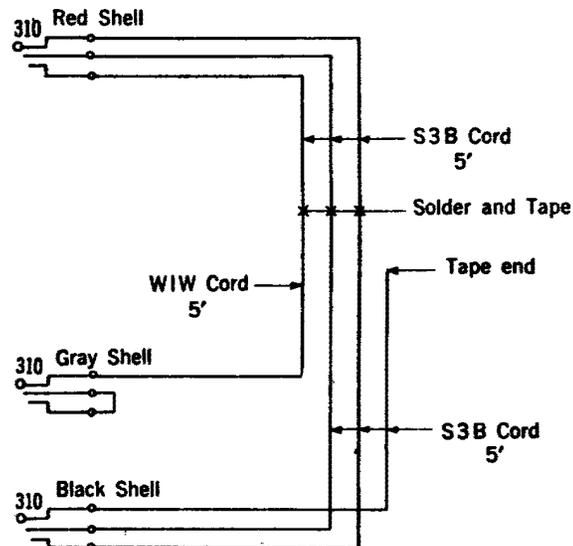

Fig. 1
2.06 Special Patching Cord wired and equipped in accordance with Fig. 1 made up locally. (For Test (A), required only in offices equipped with transmission test line circuit SD-32021-01. For Test (K), required only where the trunk apparatus is located on the connector frame and the transmission test line circuit SD-32021-01 is not provided.)
4.03 If using test line SD-32021-01, insert the BLACK shelled plug of the special patching cord, Fig. 1, into jack No. 3 of the connector test line and, if testing other than level hunting connectors, insert the GRAY shelled plug into jack No. 4 of the connector test line. Insert the RED shelled plug of this cord into the PS and T jack.
4.10 If using test line SD-32021-01 Fig. 3, insert the GRAY shelled plug of the special patching cord, Fig. 1, into jack No. 4 of the connector test line.